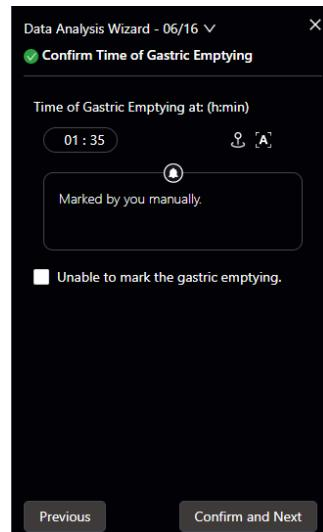

Figure 4-30 Data Analysis – Confirm Time of Gastric Emptying
7) Confirm Time of Gastric Emptying (Figure 4-30). Check if the time of gastric emptying is correct. If incorrect, you can directly input the necessary time in the time edit box, or click [Mark on the graph]  to mark the time on the chart. To restore the time automatically marked by MotiliScan, click [Auto Compute] **A**. If the time cannot be marked, check [Unable to mark the gastric emptying]. After confirmation, click [Confirm and Next] to proceed.